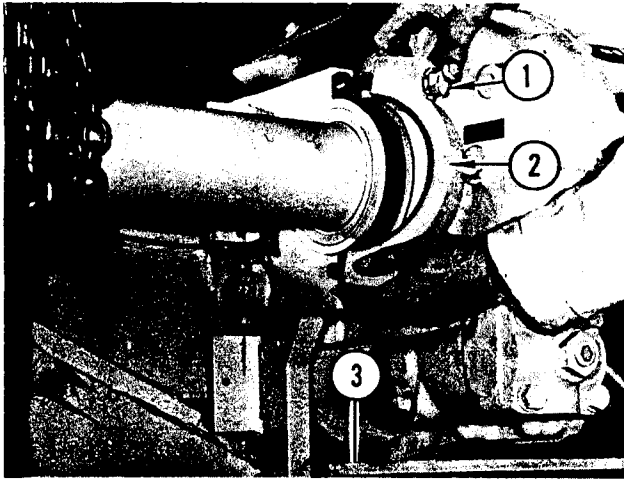

FIGURE 3. BLADE LIFT SHAFT
Attach chain sling and hoist to blade lift shaft at point about 14 inches to the rear of blade lift housing hub. Refer to Figure 3. Remove two capscrews and lockwashers (1) and remove bearing cap (2). Remove nut (3)